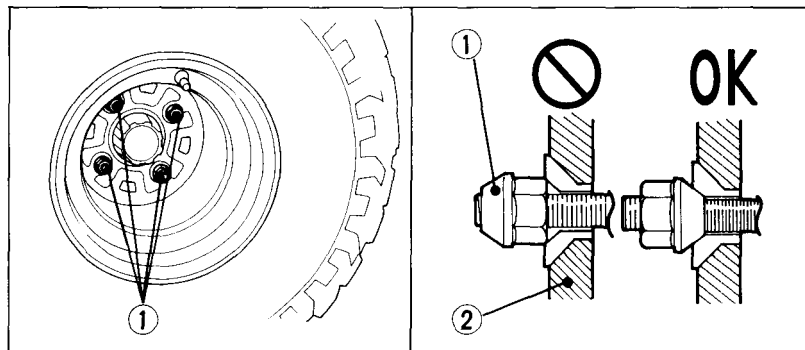

Fig. 4-31
2. Loosen the wheel nuts (Fig. 4-31) with a 17 mm socket wrench.